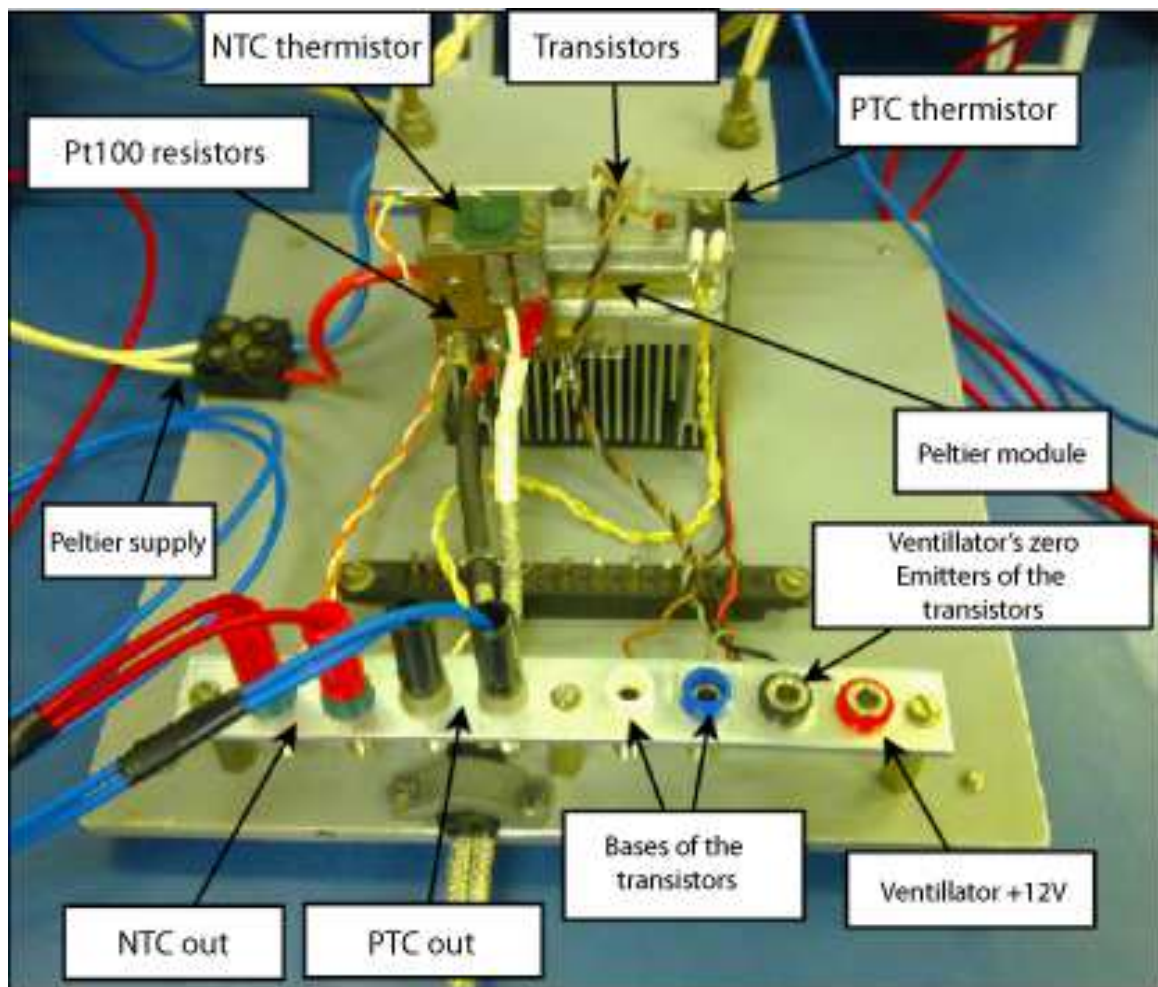

Figure 5. The test setup
In each measurement cycle, the software saves all the measured samples. In this test setup two Pt100 resistors, one NTC and one PTC thermistor is measured. (One of the Pt100 is mounted to the upper side of the Peltier module; another is attached to the bottom side. The NTC, PTC and the transistors are mounted onto the upper side, see Fig 5.)
4.3.2. The base-emitter voltage of the transistors can be measured by the Hameg multimeter on diode mode. The emitters are on a common point together with the ventilator negative pole. (see Fig. 5) The bases have separate connections. Applying two multimeters in diode regime the forward voltages can be measured simultaneously.